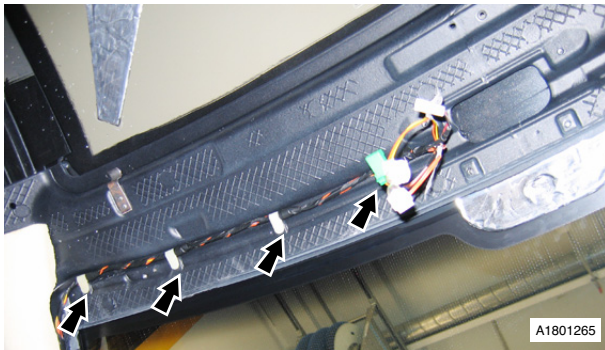

Fig. 5
34. Release roof harness from clips (x4) and velcro (x2) (see Fig. 5).